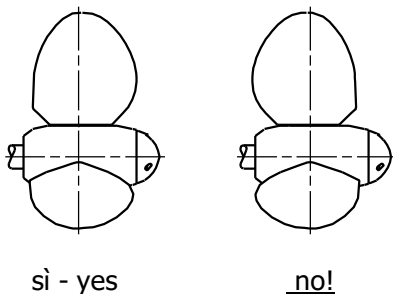

fig. 3
- c. In the feathering position the blades must be perfectly aligned and oriented as in fig. 3.